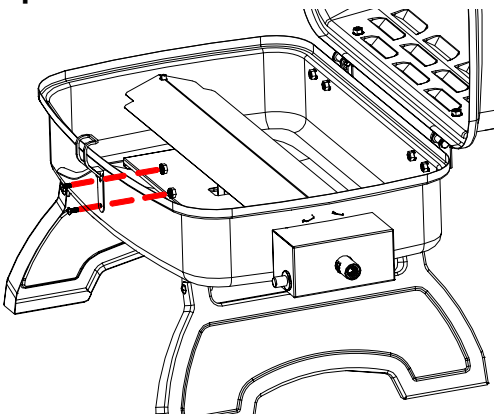

Fig. 8
*Locate:* Latch, (2) M4x10 bolts, (2) M4 nuts
*Procedure:* Attach the Latch to the firebox using (2) M4x10 bolts and (2) M4 nuts as shown in Fig. 8.